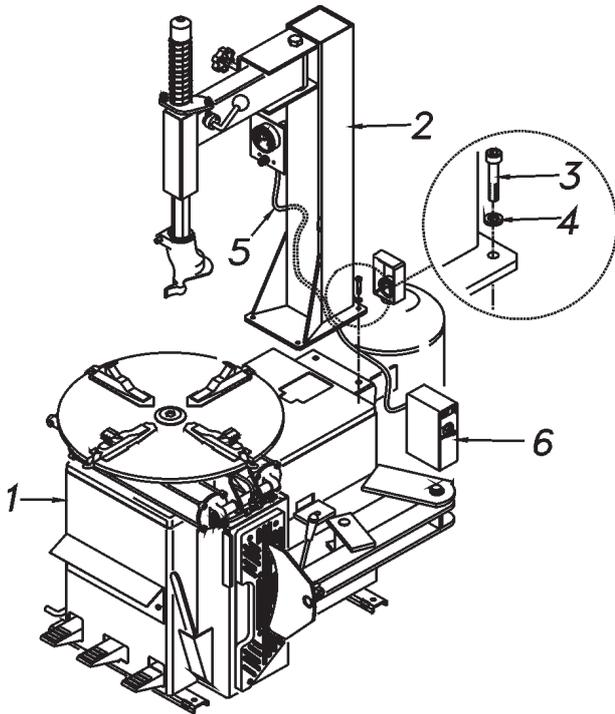

Fig. 11
A. Lift the column (2, Fig.11) with an appropriate lifting tool (crane, fork lift) and a belt of sufficient capacity (2000N). For this operation it is required to be helped by a second person.
B. Bolt the column (2, Fig.11) to the cabinet (1) with the screws (3) and washers (4). Screws must be firmly tightened.